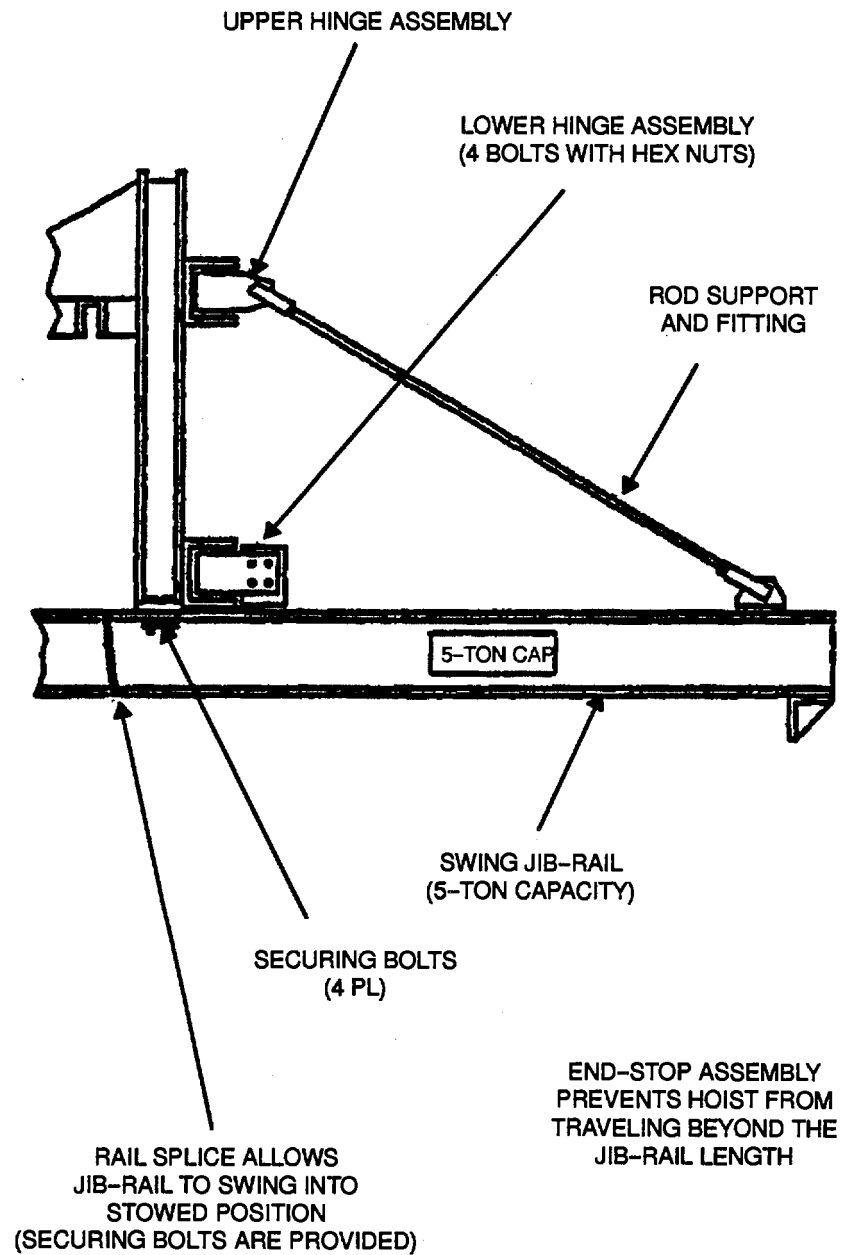

Figure 2-8 . Bridge Crane Jib Rail (Deployed)
- a. Remove four bolts (Figure 2-8) from captive storage positions in jib rail base.
- d. Remove stowing rod from storage position and swing jib rail to stowed position (Figure 2-8)